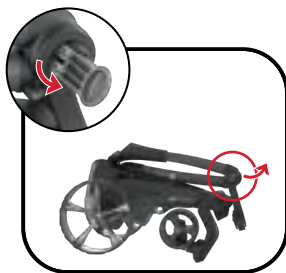

Fig 1
1. Lift the upper bag support slightly and release the upper latch (fig. 1)